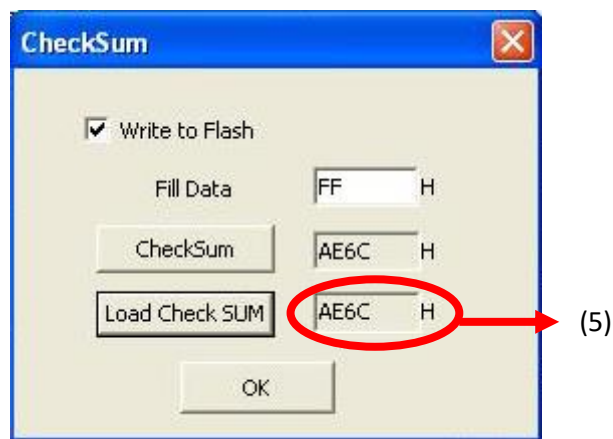

Figure 3-4 Result Displayed in Check Sum dialog box
- 4) Execute the Program, the check sum value has been written to flash, and open the check sum dialog box again, click the **Load Check SUM**, the result display in blank (5) as figure 3-4.